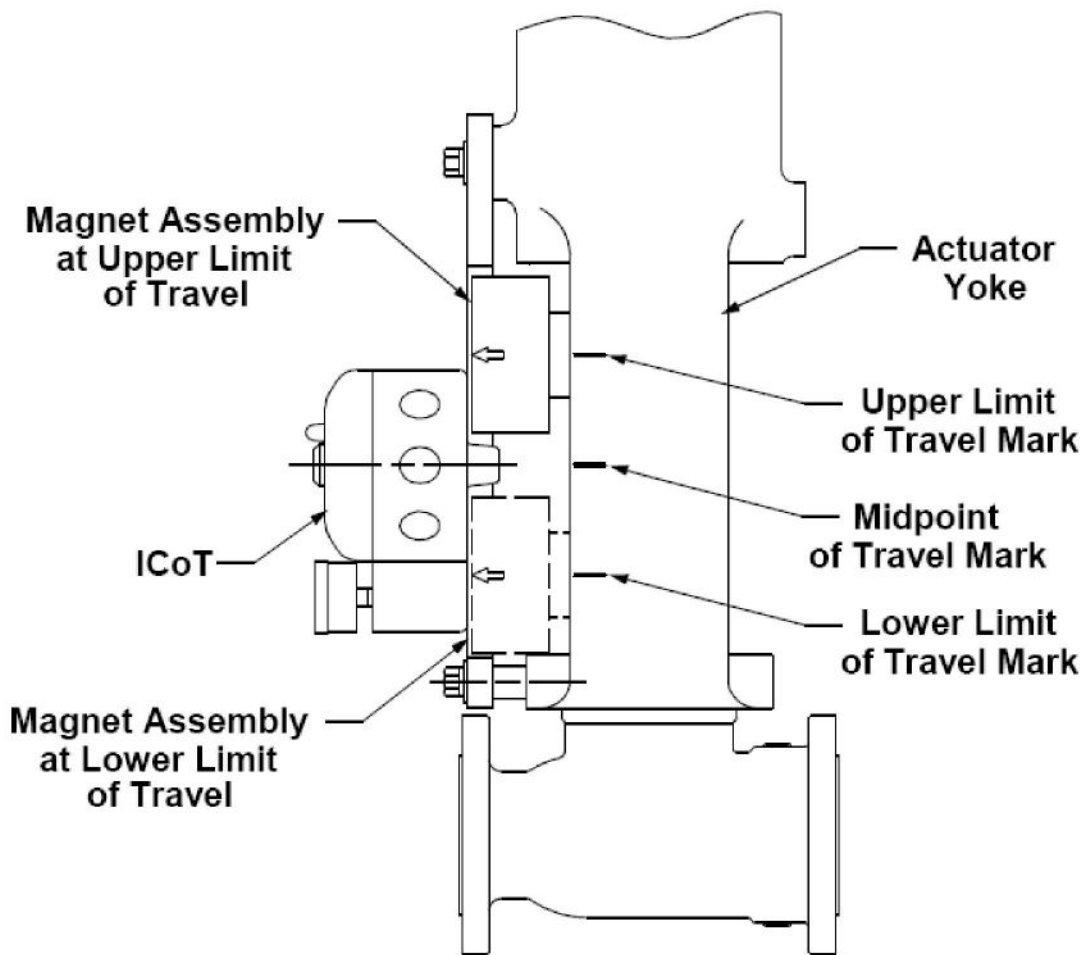

Figure 3-6
4. Lastly, mount the positioner to the bracket so that the positioner sensor (nose) of the ICoT lines up with the midpoint mark. (See Figure 3-6).